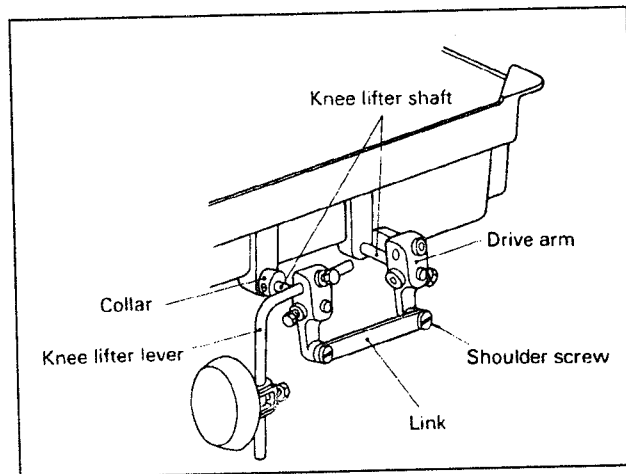

Fig.8
9、 Installing the knee lifter (Fig.8) :